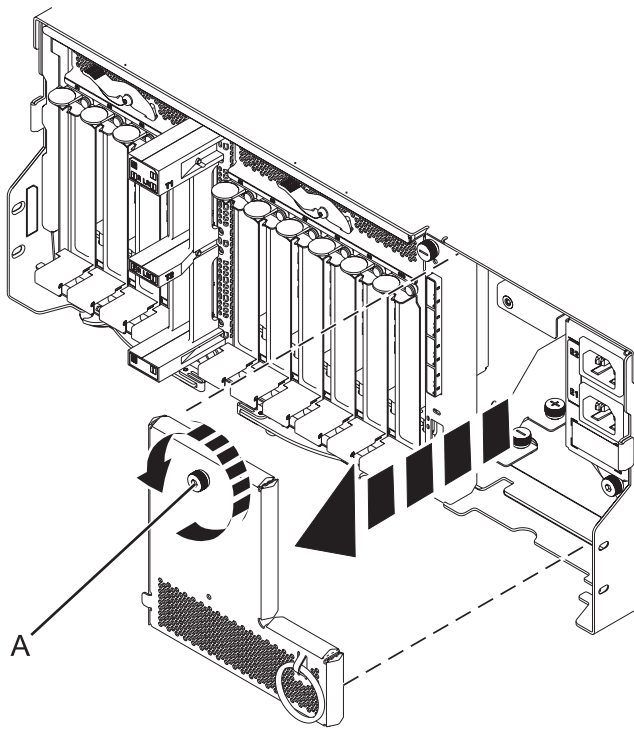

Figure 109. Removing the power cord plate
10. Remove the power cord plate by turning the thumbscrew (A) and pulling the plate away from the system, as shown in Figure 109.